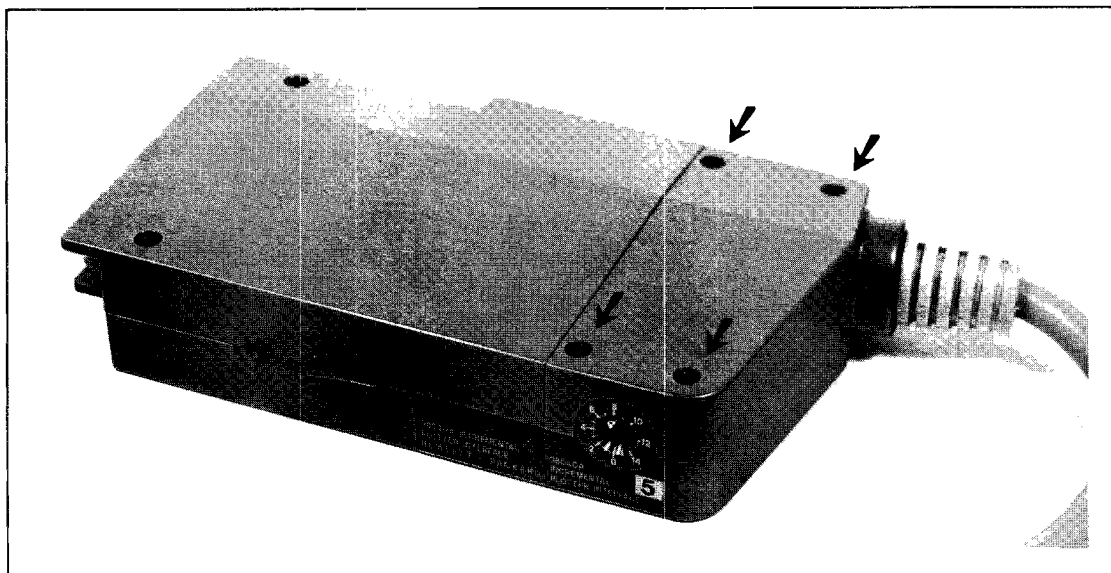

Figure 2-3:
1. Remove the four screws from the rear housing as shown in Figure 2-3.